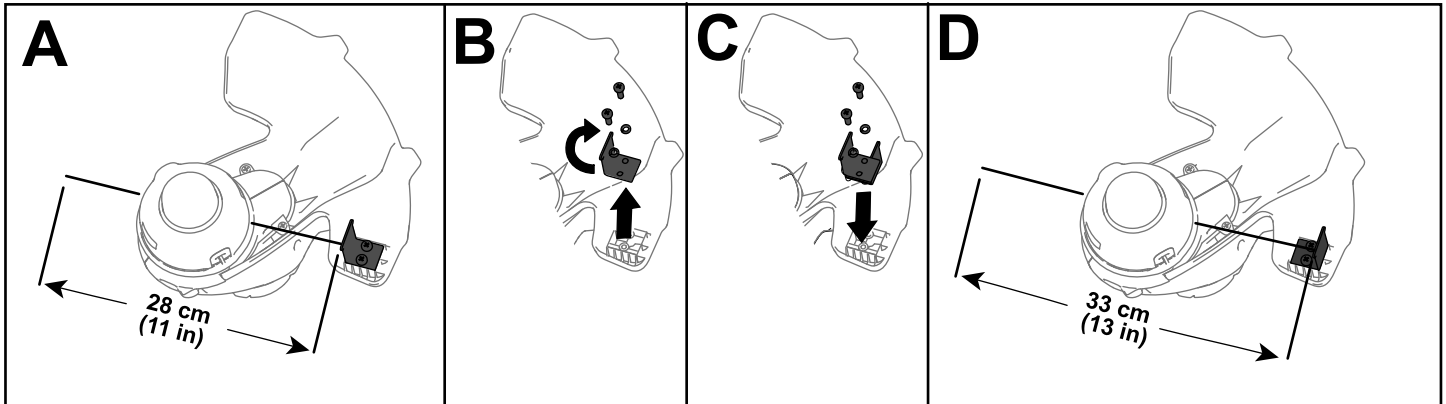

Figure 15
The trimmer comes from the factory with a cutting swath of 28 cm (11 inches) as shown in A of Figure 15. Refer to the following instructions to adjust the swath to 33 cm (13 inches) as shown in D of Figure 15.
1. Remove the swath blade from the guard by removing the 2 screws and 2 lock washers holding it in place (B of Figure 15) and rotate the swath blade 180°.
2. Once the swath blade is rotated, install it onto the guard using the 2 screws and 2 lock washers previously removed (C of Figure 15).